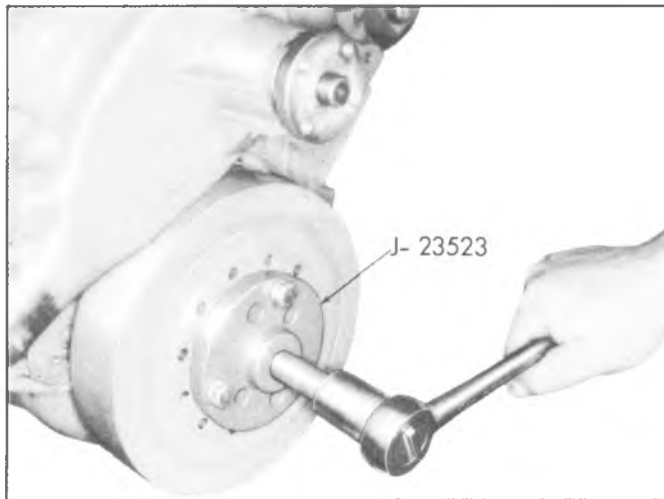

Fig. 6A-29--Removing Torsional Damper
2. Attach damper installer Tool J-22197 to damper. Tighten fingers of tool to prevent weight from moving (fig. 6A-30).
position, using J-5590 until it bottoms against crankshaft gear (fig. 6A-30). Remove installer tool.